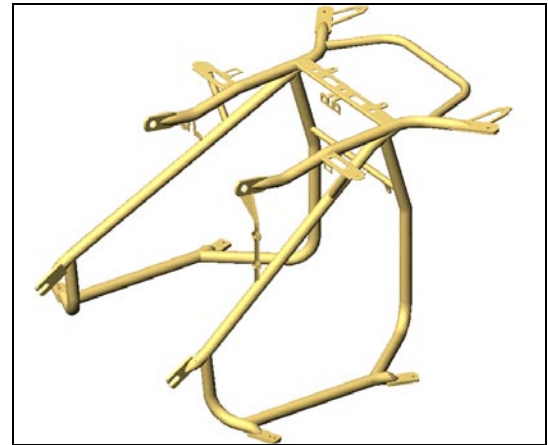

Figure 1
- a. Cut the down tubes of the trunk stay and remove the lower section as shown in Figures 1 & 2